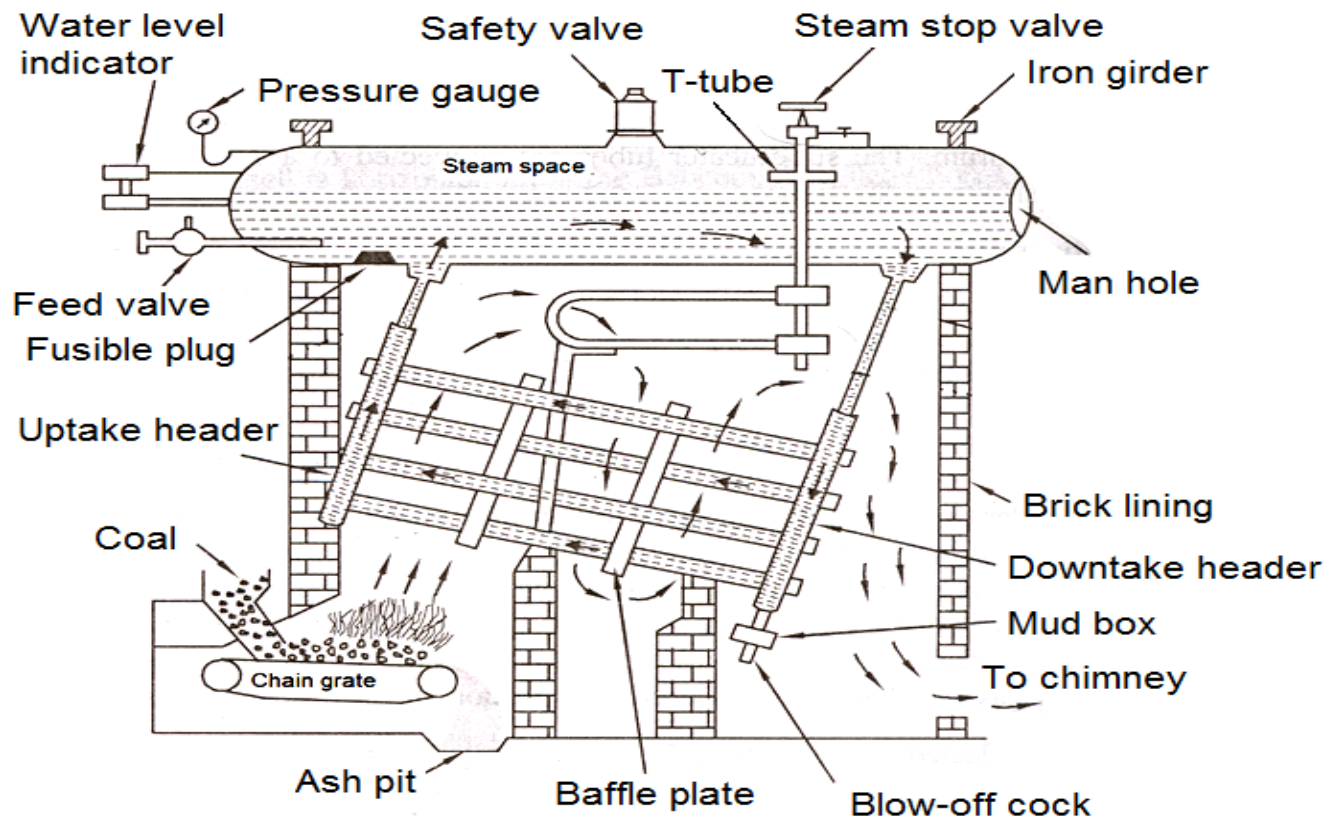

Fig 1.6 Babcock and Wilcox boiler
1. Water and steam drum is suspended from the iron girders resting on the iron columns (not shown in fig1.6).